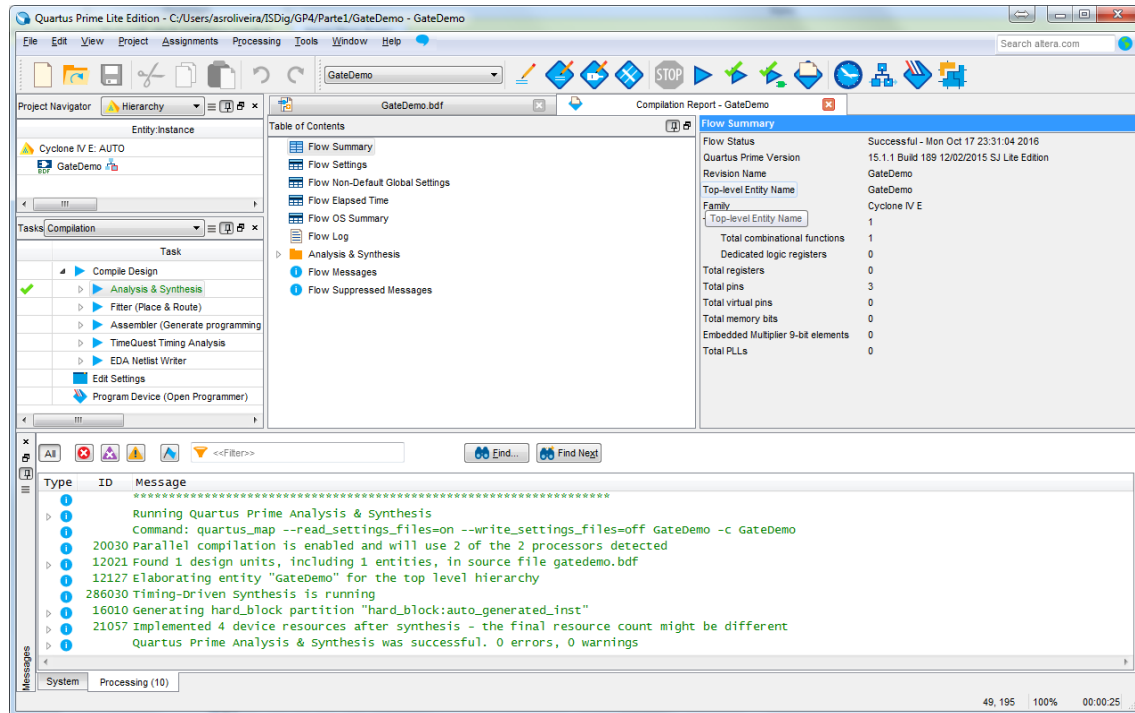

Figure 15 - “Quartus Prime” IDE after running “Analysis &amp; Synthesis”.
8. Now the behaviour of the logic gate used will be validated by simulation. However, before performing the simulation, execute the “Analysis & Synthesis” option to analyse the structural correction of the project. After running Analysis & Synthesis the IDE should look like Figure 15.